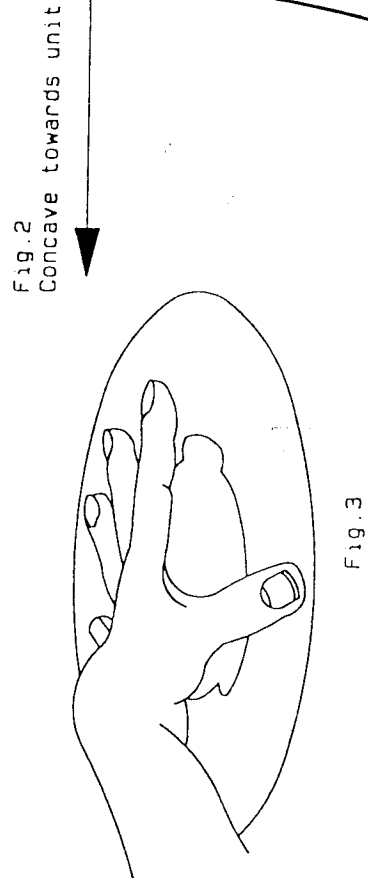

Fig.2
1. Seed discs must always be fitted concave towards the unit air gallery block even if they appear to function either way round. (Fig.2)